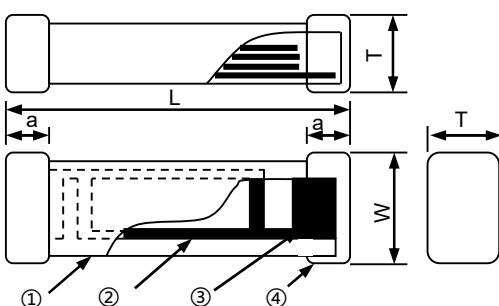
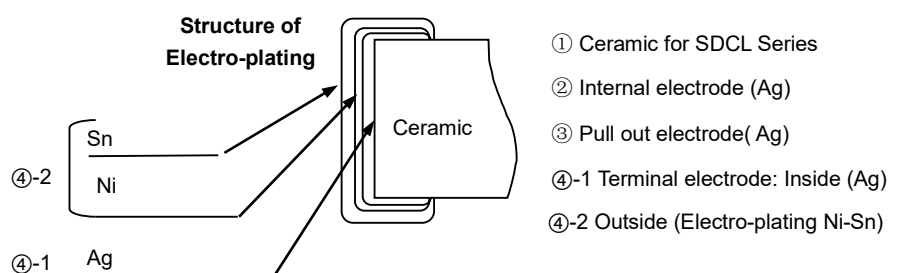

Fig. 4-3
Fig. 4-4
- Structure: See Fig. 4-3 and Fig. 4-4.